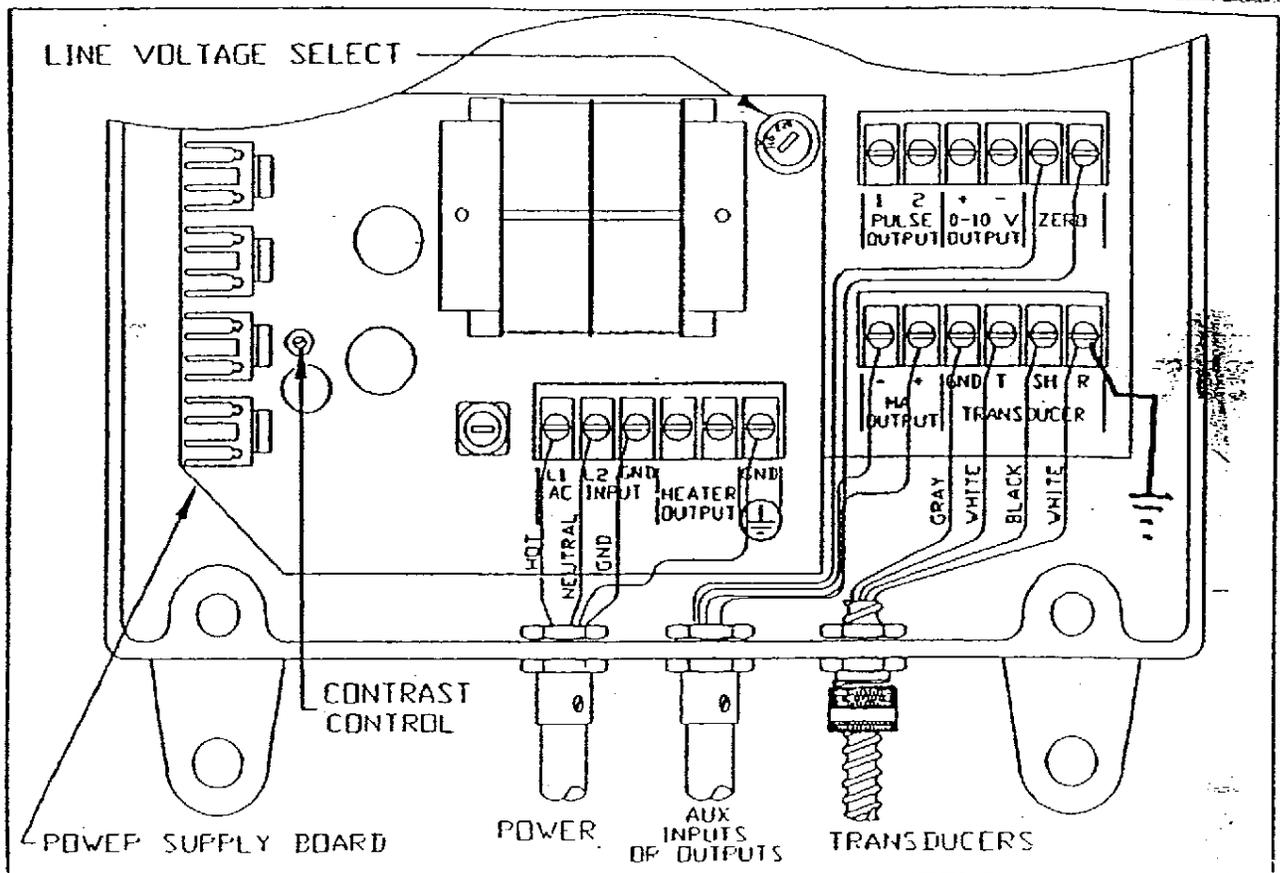

Figure 5-6
6. The power cable is connected to the terminals labeled AC INPUT on the Power Supply board (Fig 5-6). Connect one of the hot wires to the L1 terminal and the other hot wire to the L2 terminal and connect the ground wire to the GND terminal.
1. The transducer cable is connected to the terminals labeled TRANSDUCER on the far right side of the flowmeter housing (Fig 5-6). Connect the gray wire to the GND terminal, connect one of the white wires to the T terminal and the other white wire to the R terminal, and connect the black wire to the SH terminal. The white wires and the T and R terminals are interchangeable allowing either white wire to be connected to either terminals.
2. The auxiliary output cable for the 4-20 mA interface for an external device, such as, a chart recorder, is connected to the terminals labeled MA OUTPUT immediately to the left of the transducer terminals (Fig 5-6). Connect the positive polarity wire to the + terminal and the negative polarity wire to the - terminal. The 4-20 mA interface output is rated for a loop resistance of up to 750 ohms and is isolated for 1500 volts.
3. The auxiliary output cable for the 0-10 VDC interface for an external device, such as, a chart recorder, is connected to the terminals labeled 0-10 V OUTPUT on the far right side of the flowmeter housing above the transducer terminals (Fig 5-6). Connect the positive polarity wire to the + terminal and the negative polarity wire to the - terminal.
4. The auxiliary input cable for the positive zero interface used to inhibit flow rate readings and totalizer counting during no flow conditions is connected to the terminals labeled ZERO on the far right side of the flowmeter housing above the transducer terminals (Fig 5-6). The terminals are interchangeable allowing either wire to be connected to either of the terminals.
3. Adjust the display contrast by turning the CONTRAST control on the power supply board (Fig 5-6) using a phillips or small straight slotted screwdriver. To darken the characters on the display, turn the CONTRAST control clockwise. To lighten the characters on the display, turn the CONTRAST control counter-clockwise.
- For 24-inch and larger pipes, mount the transducers on the same side of the pipe at the 2 o'clock and 4 o'clock positions, two to six inches apart (Fig 5-6).